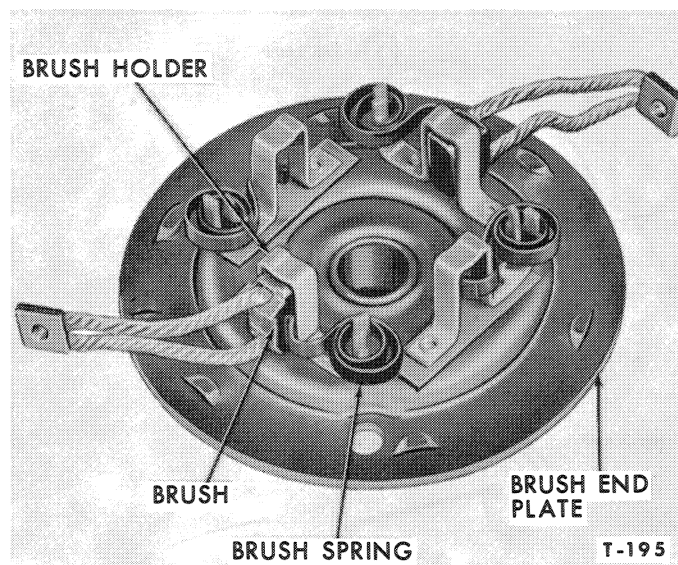

Figure 30—Installing Brushes in End Plate
1. Install the two ground brushes in the holders with the springs on the side of the brushes to hold them in place, Figure 30. Align the detent in the brush end plate with the notch in the frame, then install the field (insulated) brushes in their holders in the same manner. Use a wire hook to lift the brushes while installing them in the holders.